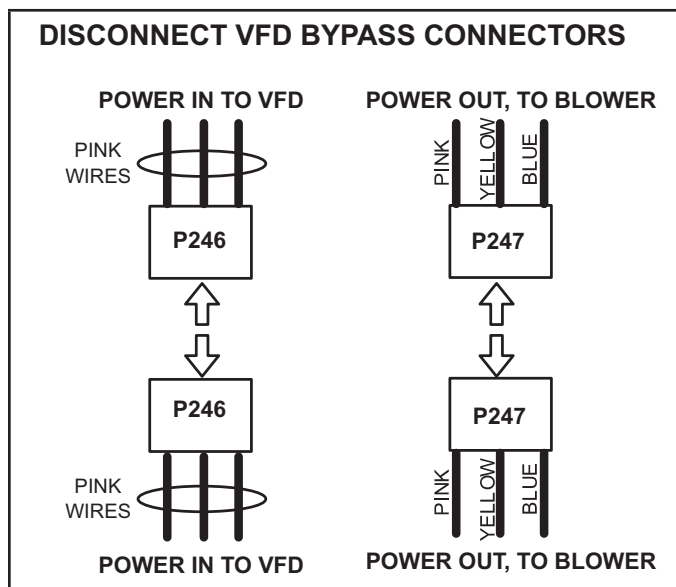

FIGURE 34
- 3 - Disconnect P246 from P246 (power in to VFD) and P247 from P247 (power out to blower). See FIGURE 34.